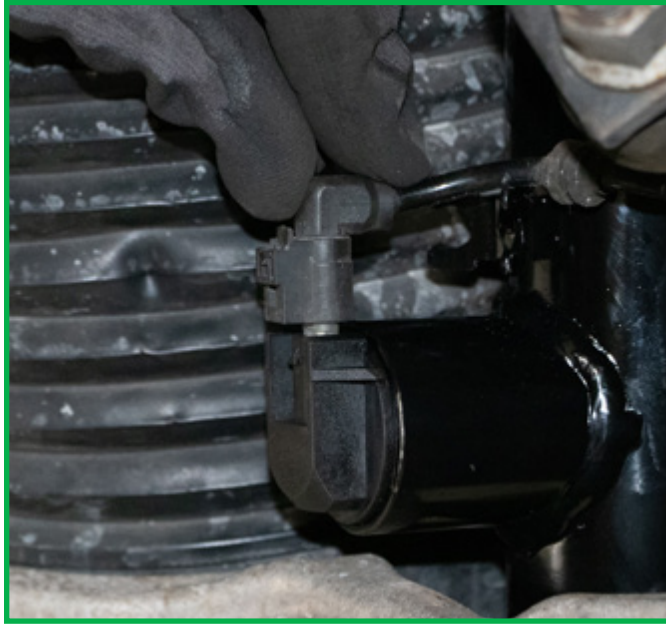

FIGURE 13
4. Reconnect the electrical connector. (Figure 13)